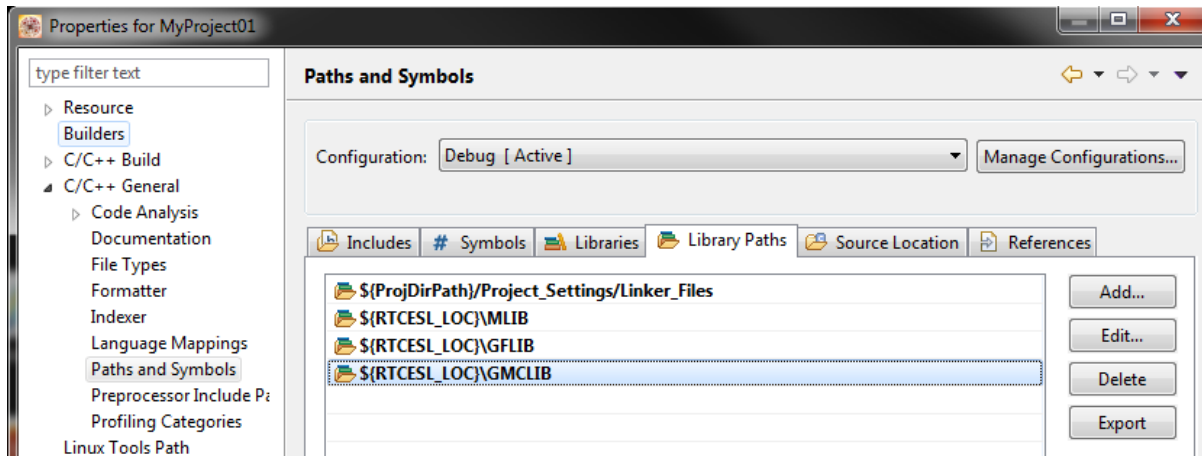

Figure 1-18. Library paths
3. In the right-hand dialog, select the Library Paths tab. See Figure 1-18.
10. Click OK, and the paths will be visible in the list. See Figure 1-18.